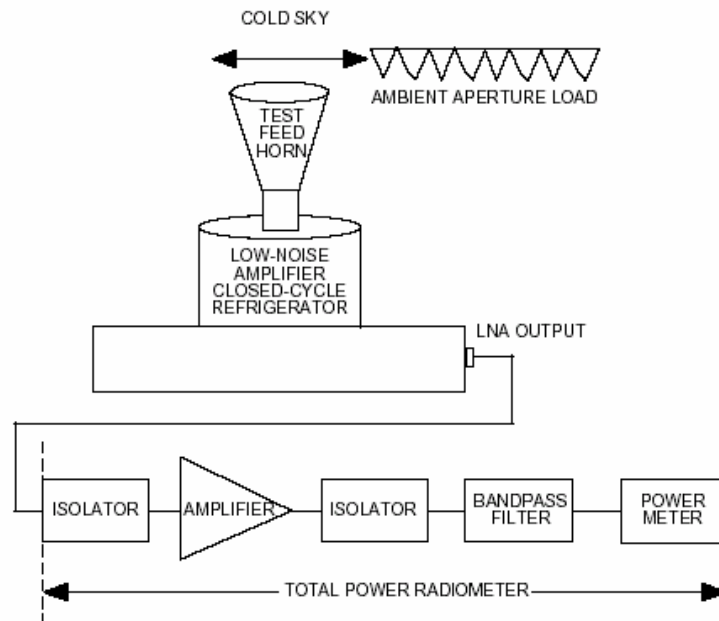

Figure 1. Cold-sky-ambient aperture load noise measurement system.
1. Point the receiver feed straight up at the sky (zenith angle) or use an aluminum reflector about 1 meter square at a 45 degree angle to reflect noise from the cold sky into the feed. (The angle should be adjusted to give the lowest possible power output from the receiver IF). Figure 1 shows the cold sky-ambient aperture load noise measurement system.